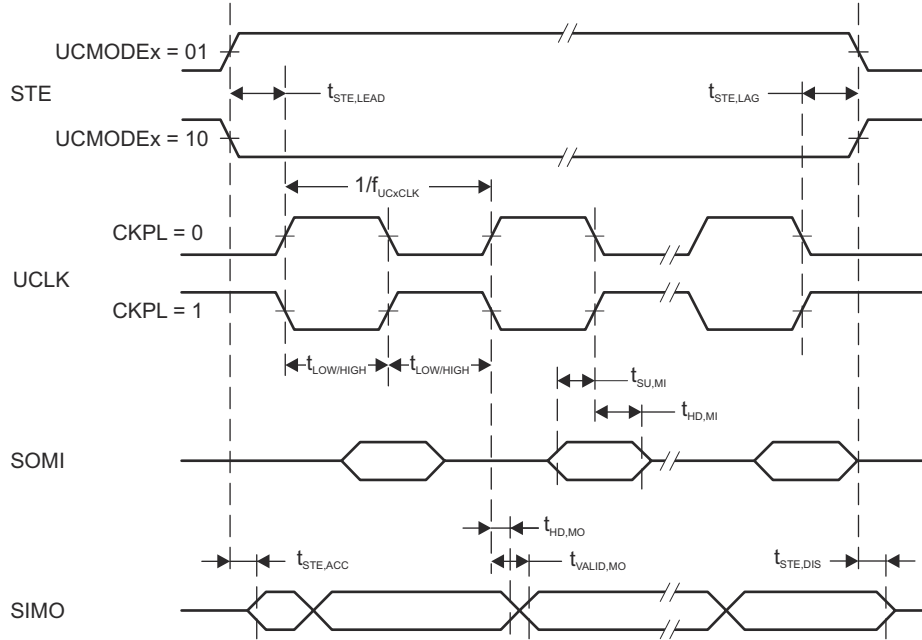
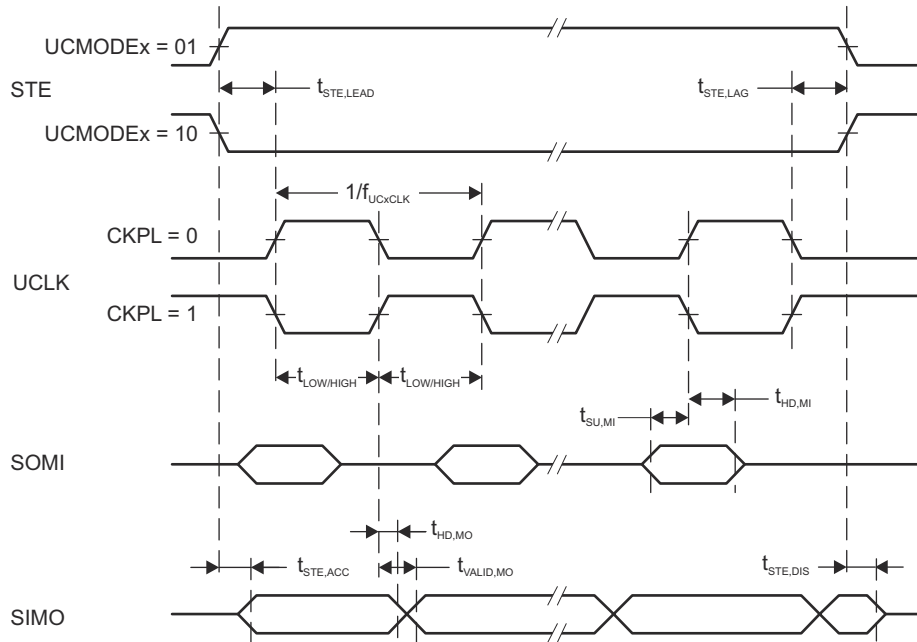

图 8-13. SPI Master Mode, CKPH = 0
图 8-14. SPI Master Mode, CKPH = 1
(2) Specifies the time to drive the next valid data to the SIMO output after the output changing UCLK clock edge. See the timing diagrams in Figure 8-13 and Figure 8-14.
(3) Specifies how long data on the SIMO output is valid after the output changing UCLK clock edge. Negative values indicate that the data on the SIMO output can become invalid before the output changing clock edge observed on UCLK. Refer to the timing diagrams in Figure 8-13 and Figure 8-14.